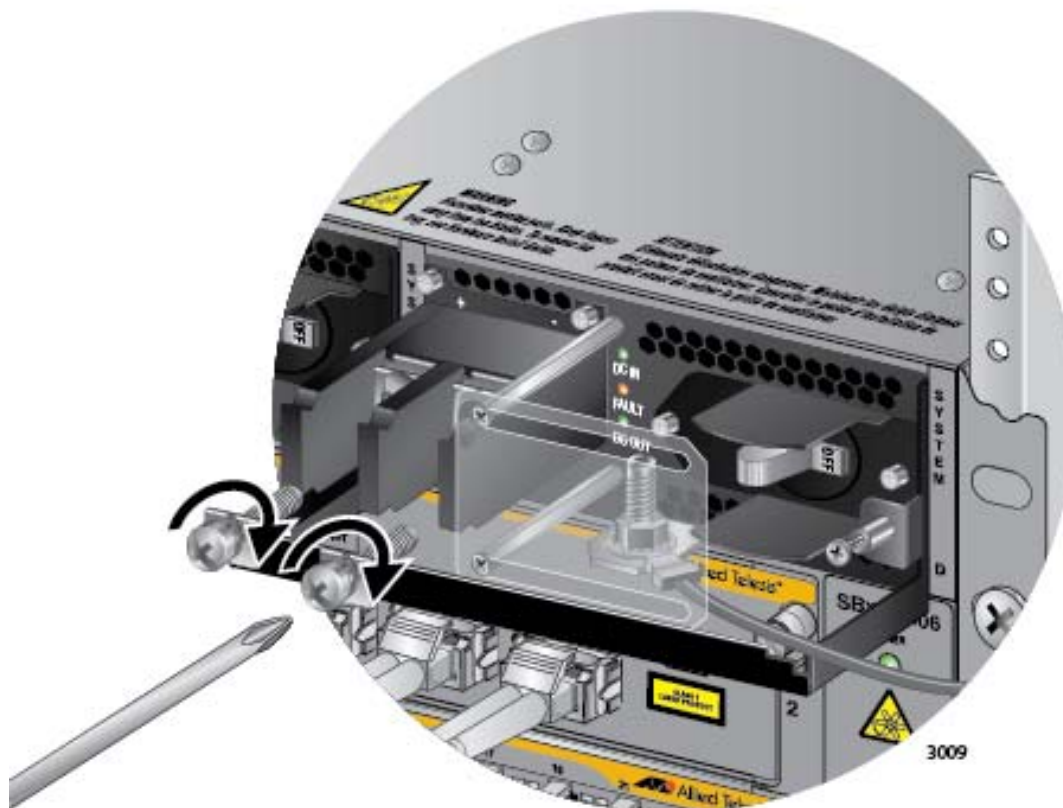

Figure 156. Reinstalling the Screws on the Positive and Negative Terminals
7. Reinstall the two screws on the negative (-) and positive (+) terminals. Refer to Figure 156 on page 248.